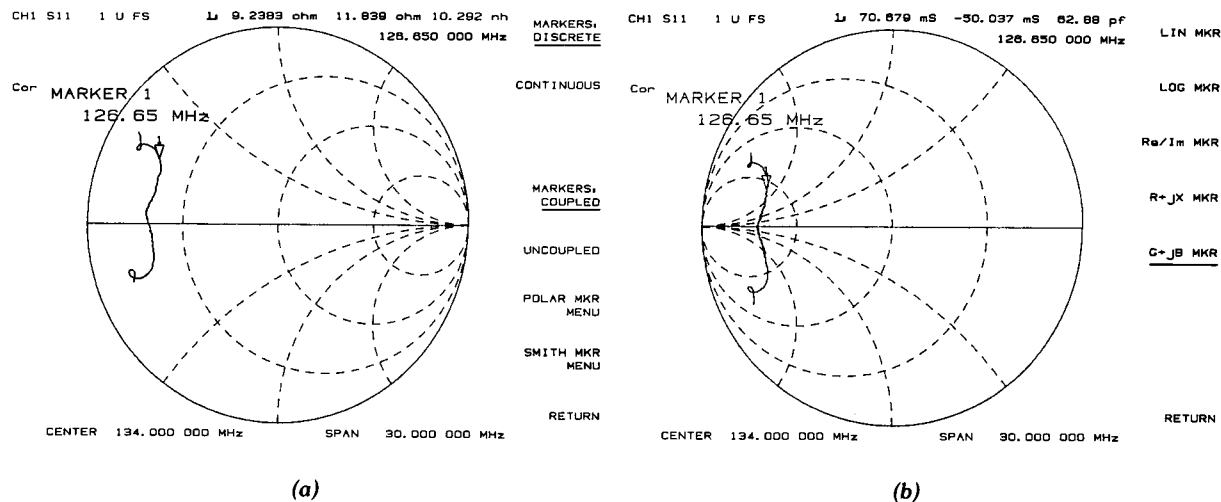

Figure 4-13. Standard and Inverse Smith Chart Formats
**[SMITH CHART]** (SMIC) displays a Smith chart format (Figure 4-13). This is used in reflection measurements to provide a readout of the data in terms of impedance. The intersecting dotted lines on the Smith chart represent constant resistance and constant reactance values, normalized to the characteristic impedance,  $Z_0$ , of the system. Reactance values in the upper half of the Smith chart circle are positive (inductive) reactance, and in the lower half of the circle are negative (capacitive) reactance. The default marker readout is in units of resistance and reactance ( $R + jX$ ). Additional marker types are available in the Smith marker menu (refer to Chapter 6).
An inverted Smith chart format for admittance measurements (Figure 4-13) is also available. Access this by selecting **[SMITH CHART]** in the format menu, and pressing **[MKR] [MARKER MODE MENU] [SMITH MKR MENU] [G + jB MKR]**. The Smith chart is reversed and marker values are read out in units of conductance and susceptance ( $G + jB$ ).